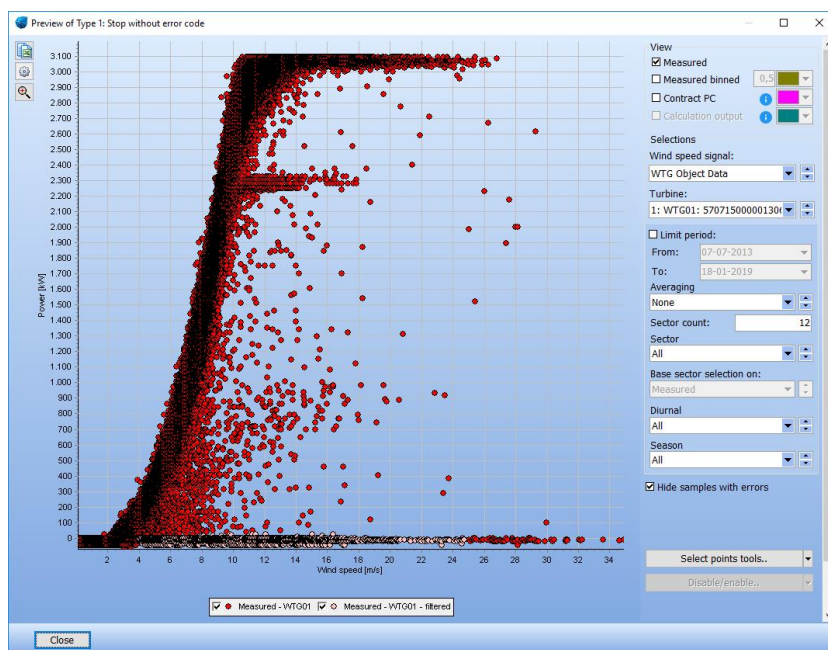

Figure 39: Preview: Stop without error code
**Type 1** allows to identify events with stops without error code: A combination of wind speed and power is used to find these events. The algorithm is based on that the when wind speed is bigger than x m/s (default 5 m/s) and the power is smaller than x% of rated power. You can specify a new error code number for these events. The *Preview* button brings you to the scatter plot and shows the impact of the chosen settings (Figure 39). In the scatter plot the filtered events are shown in a colour. The new, user defined error code becomes effective after you have closed the preview and pressed *Run*. The new error code has now been added to the 10-minute production time series.